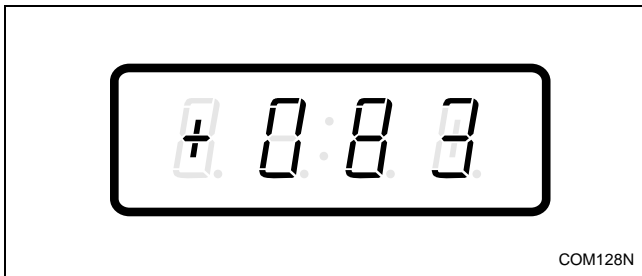

Figure 115
3. Press the DELICATES (+) or the COLD (-) keypad to scroll through the programmable options until “+083” appears in the VFD. Refer to *Figure 115*.